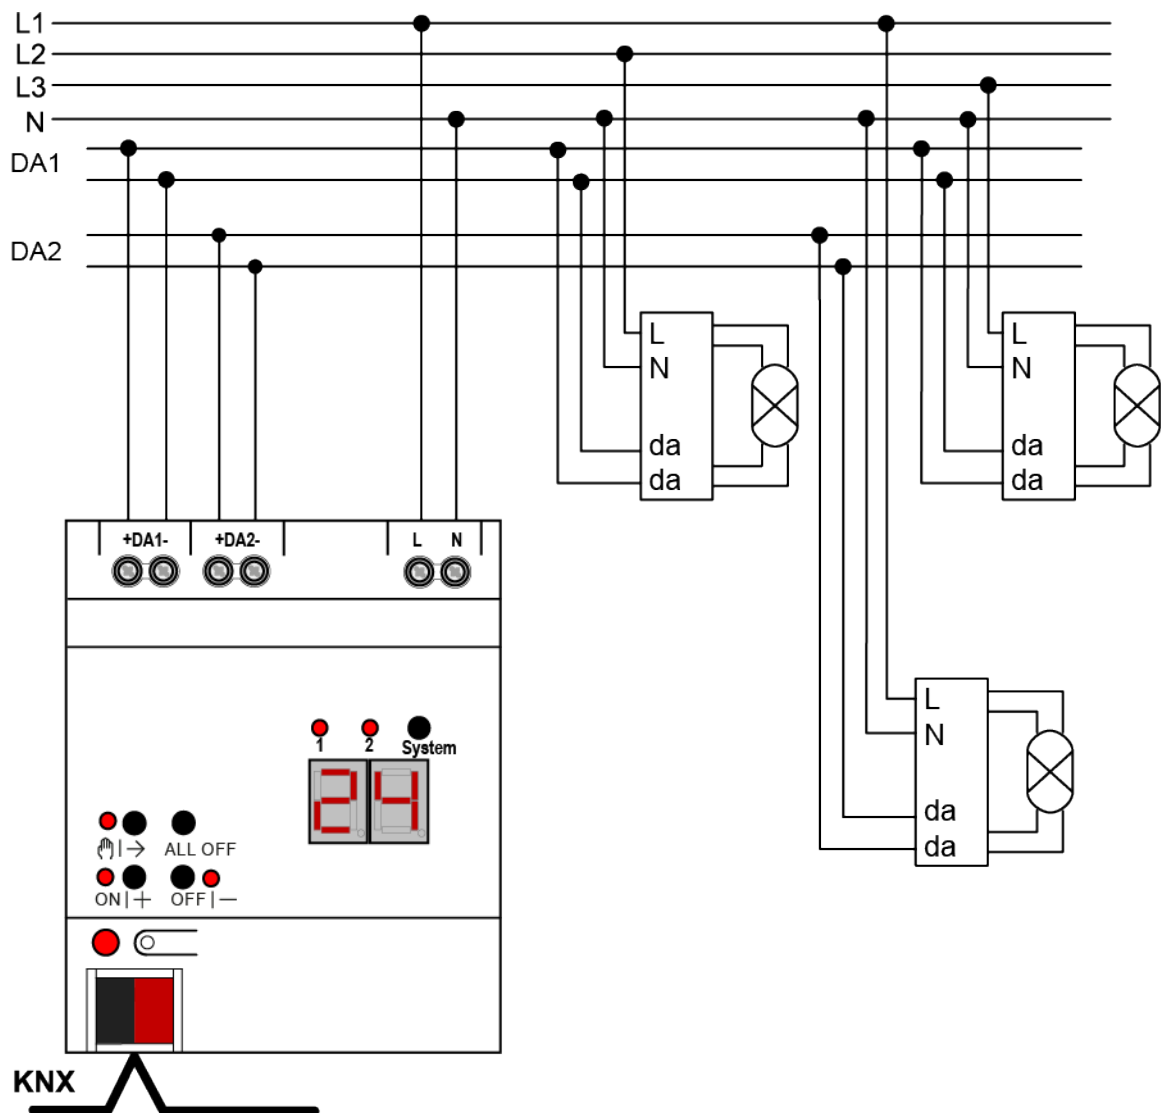

Figure 2: DALI gateway connection example, 2fold
- Connect device as shown in the connection example (see figure 2)